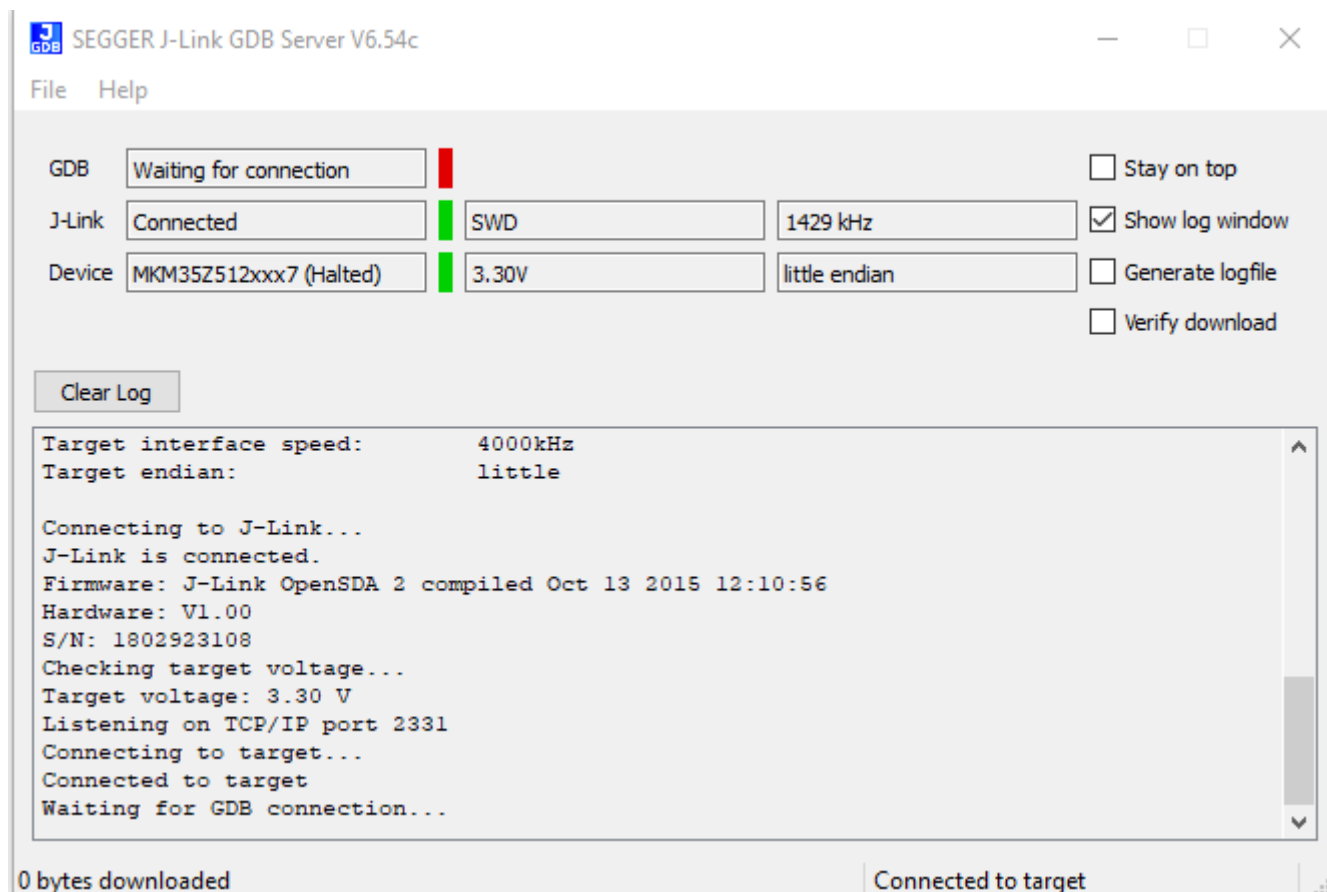

Figure 37. SEGGER J-Link GDB Server screen after successful connection
5. After it is connected, the screen should resemble Figure 37 :